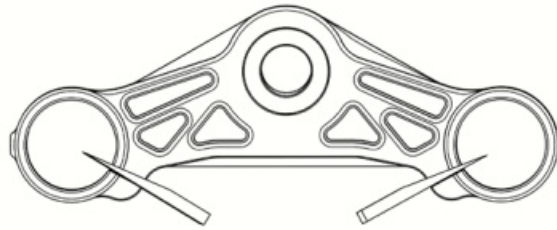

Fig. 9
1. Before installing forks into either Kraus tree, use a spreader/shim to open the bore of each tree. (See fig. 9)